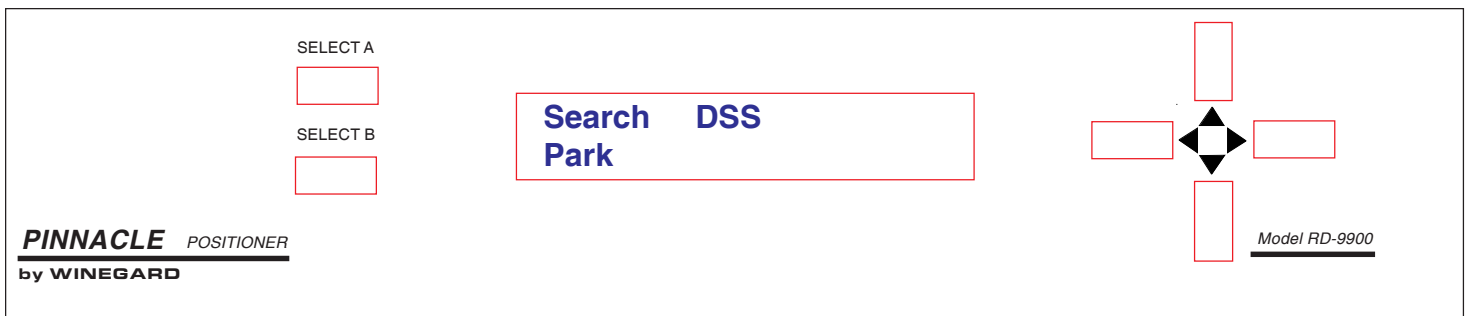

Figure 24
3. Step out of the RV/coach and verify that antenna is in the travel position when **Collapsing System** is replaced with normal menu, Figure 24.